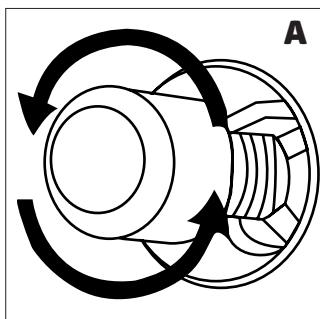
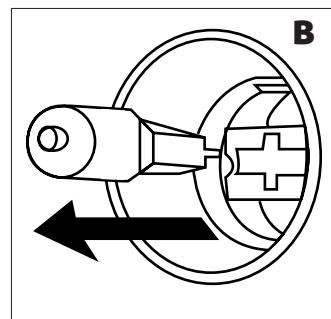

Figure 58
Figure 59
3. Then remove the oven lamp by turning it (see fig. 58) if it is type A, or by pulling it (see fig. 59) if it is type B.